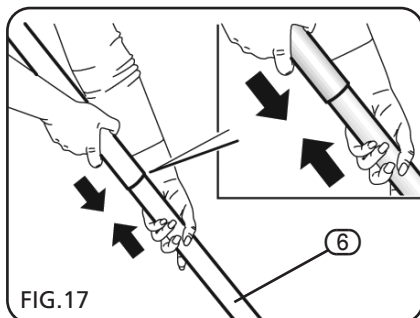

FIG.17
8.11 FITTING THE EXTENSION TUBES & FLOOR HEAD ATTACHMENT (FIGS.17 – 19):
- Attach the extension tubes (6) as required.